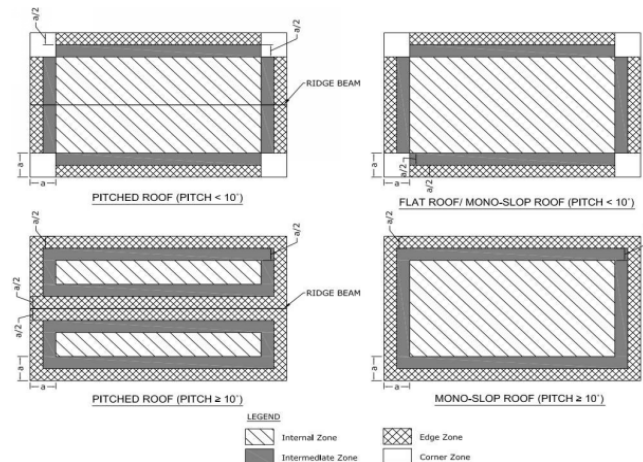

Figure 2 - Roof Zones Definition
*Refer to Note 8- Figure 2 for roof zone definition.
Note 8 Refer Figure 2 for definition of roof zones.
In Figure 2, the value of dimension "a" is the minimum of 0.2b, 0.2d and h. (b & d are building dimensions and h is its height)